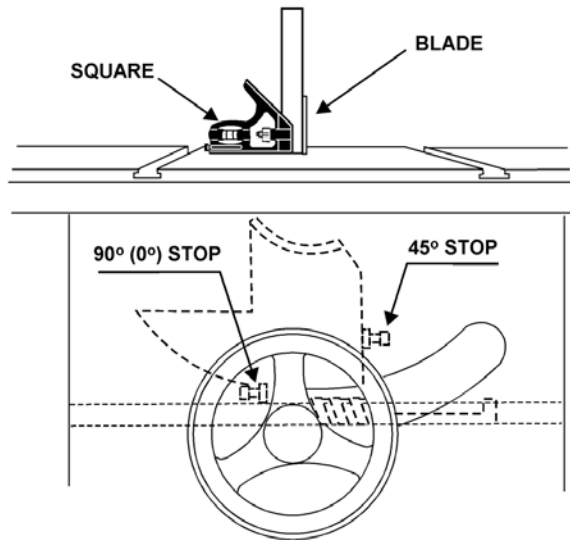

Figure 13
2. Using a combination square, check the 90° stop (Figure 13 shows the 90° stop being checked).